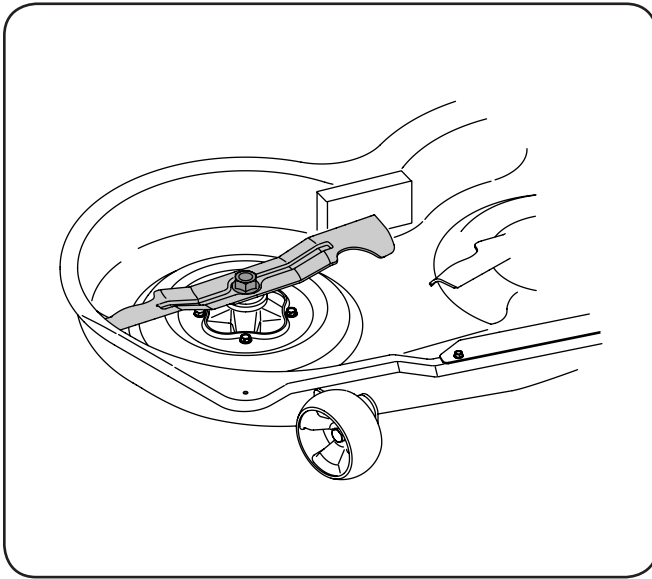

Figure 7-9
2. Place a block of wood between the center deck housing baffle and the cutting blade to act as a stabilizer. See Fig. 7-9.
3. Remove the hex flange nut that secures the blade to the spindle assembly. See Fig. 7-9.